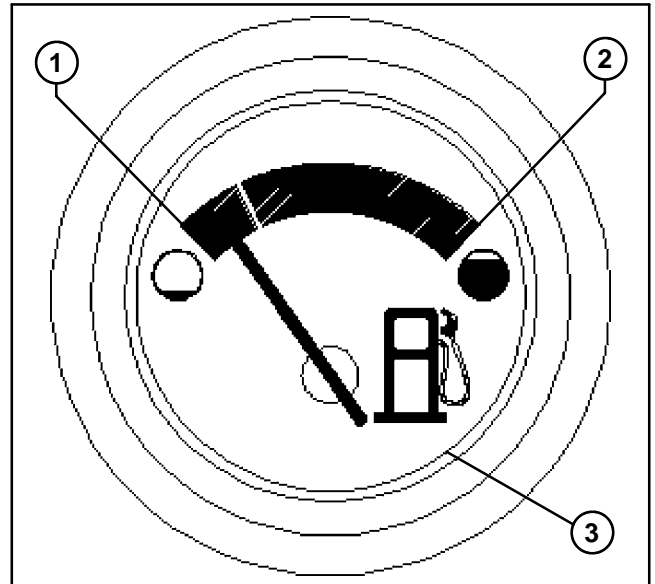

Figure 37
2. Take test point readings (Fig. 37).